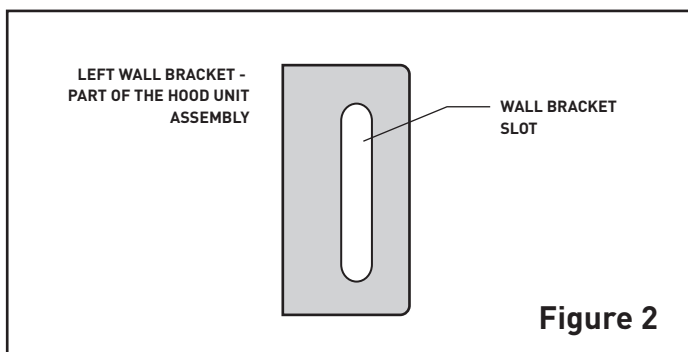

Figure 2
1. Determine the desired location of your window awning and have a helper hold the Hood Unit in position while you ensure it is level. Once level, use a pencil to mark the outline of the slot in the Left and Right Wall Bracket, as shown in Figure 2 and 2a. Remove the Hood Unit from the wall.